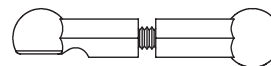

Figure 58B
1. Thread a short plastic Rod End (148) onto each end of the 4-40 x 5/8" Set Screw (149).
2. Refer to Table 55B to determine the appropriate Servo Link length for the servo that is installed. Tighten both sides equally until the Rod is the same length as the one shown in Figure 58B or 58C.